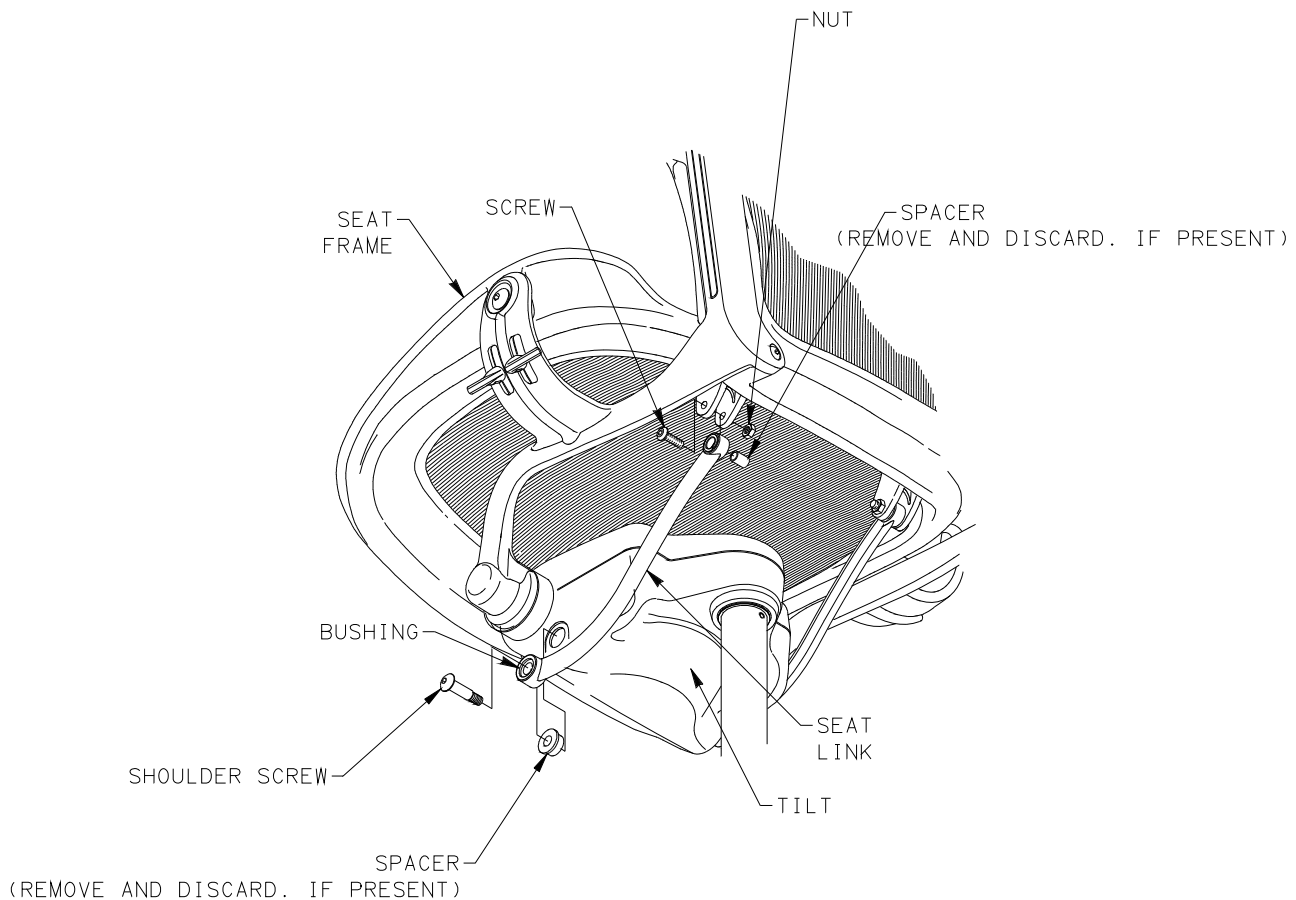

FIGURE 1
2. WHILE SUPPORTING SEAT LINK USE 6MM HEX BIT AND RATCHET WRENCH TO REMOVE SHOULDER SCREW AND SPACER (IF PRESENT) ATTACHING SEAT LINK TO TILT. SET ASIDE SHOULDER SCREW AND DISCARD SPACER. REMOVE SEAT LINK WITH BUSHINGS AND DISPOSE OF PROPERLY. SEE FIGURE 1.
3. ATTACH FRONT MOUNT OF SEAT LINK TO TILT WITH SHOULDER SCREW. TIGHTEN AND TORQUE SCREW TO 120-150 IN-LBS. SEE FIGURE 1.
4. ATTACH SEAT LINK TO SEAT FRAME WITH SCREW AND NUT. TIGHTEN NUT UNTIL FLUSH WITH END OF SCREW. REPEAT FOR OPPOSITE SIDE. SEE FIGURE 1.